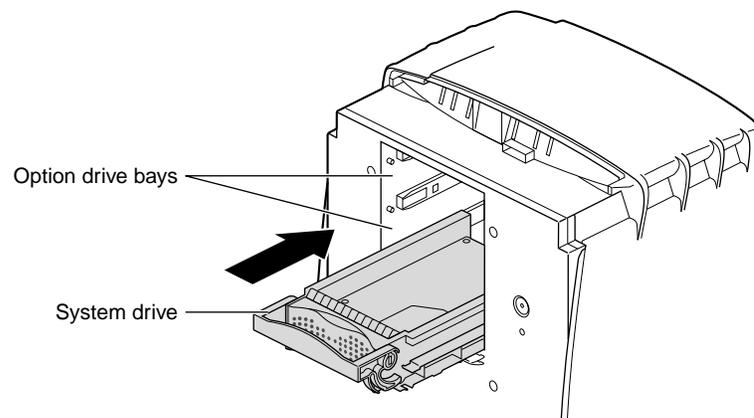

Figure 7-17 Inserting the New Drive
- With the handle fully extended, gently slide the drive into the drive bay, as shown in Figure 7-17. The drive is connected to the frontplane when the front edge of the drive is flush with the chassis.